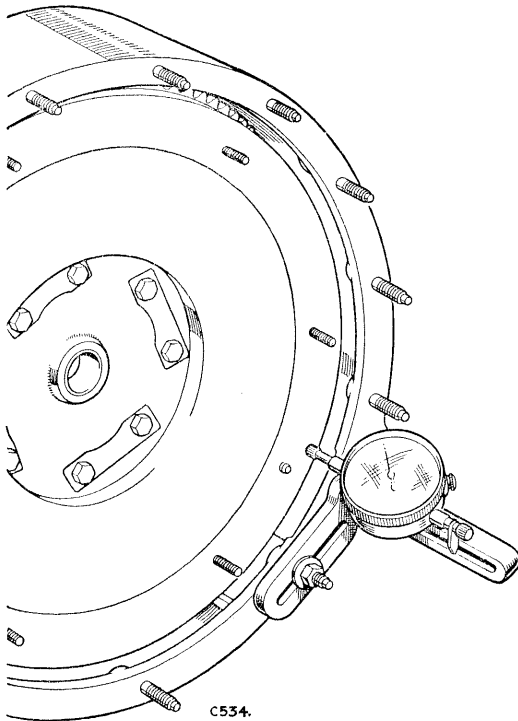

Fig. A-20—Checking run-out on flywheel face
3. Check the run-out on the flywheel face as illustrated by Fig. A-20. The run-out must not exceed .005 in. (0,12 mm) at outer edge of face.